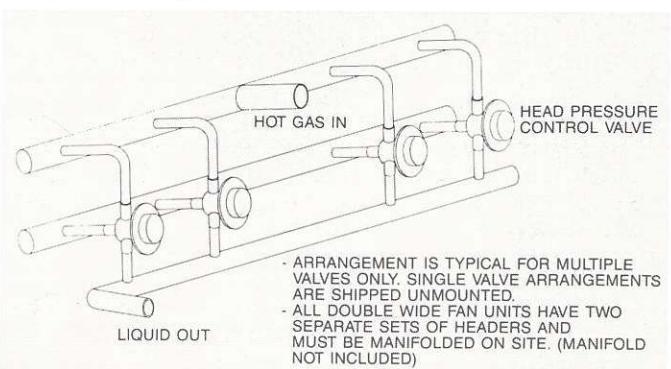

FIGURE 6: 4 valve arrangement shown. Valve quantity may vary from 2 to 10.
- Note: (1) Valve Capacity is based on net refrigeration effect at the evaporator.
(2) See Figure 6 for pipe arrangement of multiple valve systems.
(3) Pressure difference between discharge line and receiver.
(4) When ordering a flooding control package, specify refrigeration type by adding the refrigerant code to the valve model number. R-22 = 2, 134a = 1, R-502 = 2 (Example: C-2).